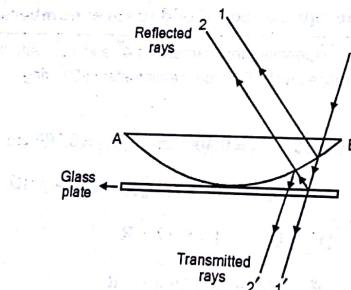

Fig. 1.10.1
- Newton's rings can be seen in reflected light as well as in transmitted light also. (As shown in Fig. 1.10.1). The ray 1' is transmitted directly through the air film while the ray 2' suffers two internal reflections (or a phase change of 2π) before emerging out.